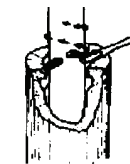

Figure 3
c. **Work around** the handle until the ring has been freed. (See Figure 3)